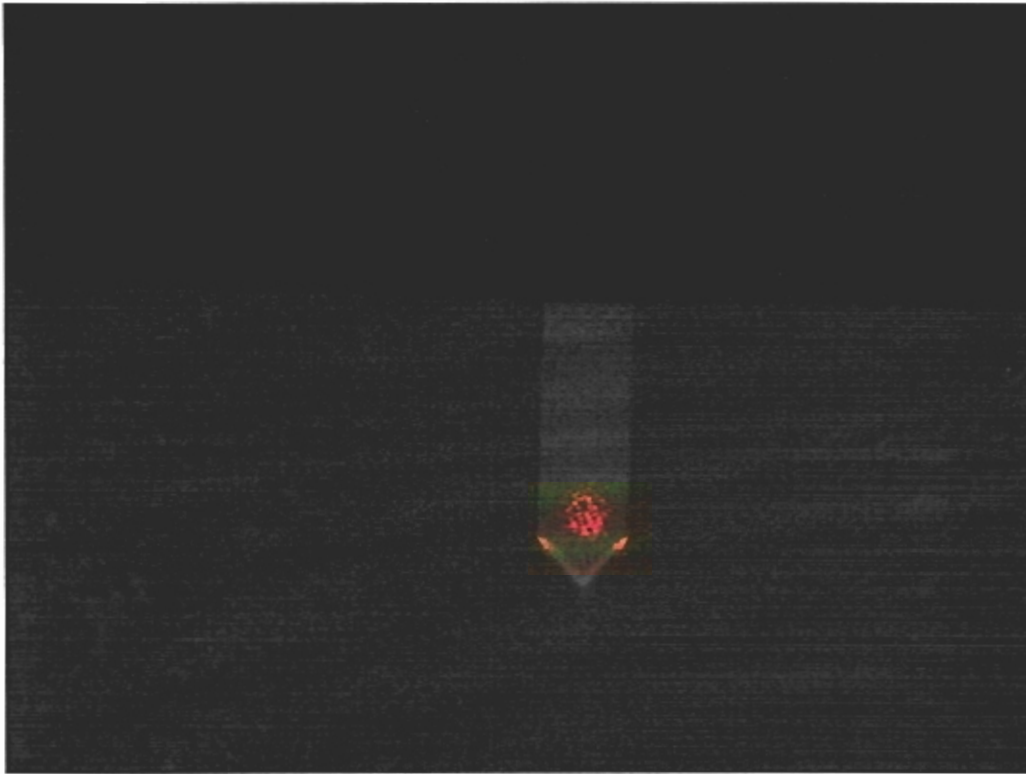

Figure 1
- c) Fine tune the X and Y laser adjustments so the laser is on the front half of the cantilever (see *Figure 1*).